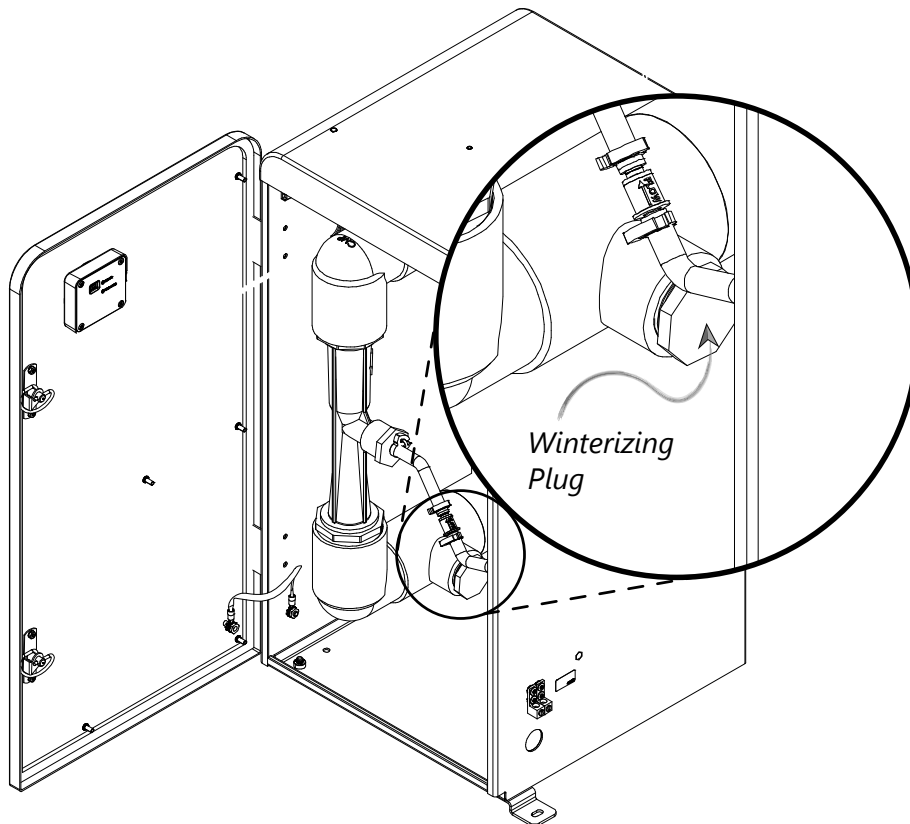
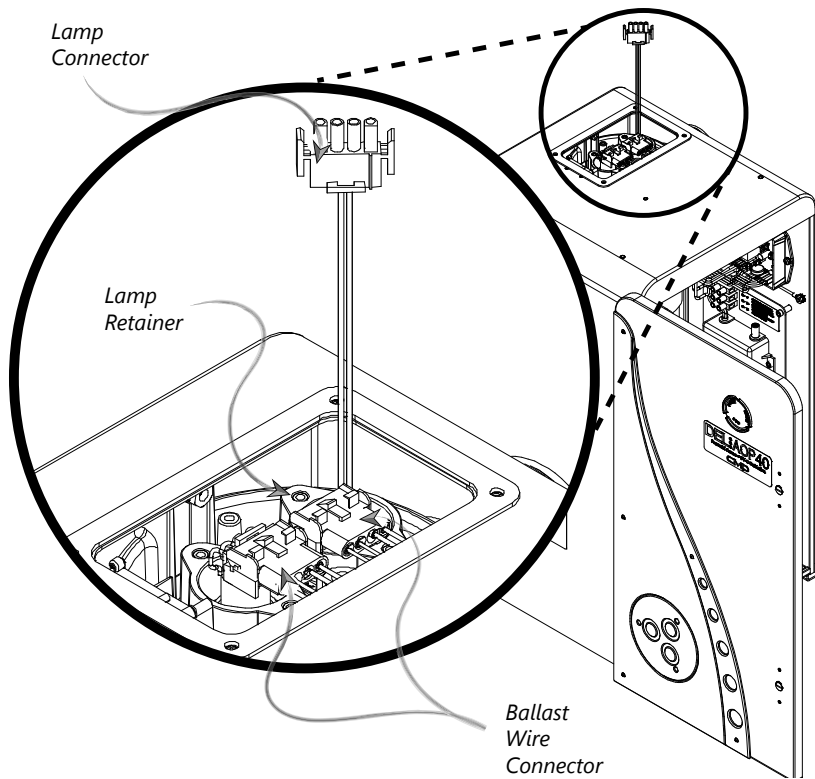

Figure 8: Winterization Plug Location
Figure 12: UV Lamp Replacement
The DEL AOP has indicator lights (Fig 8) to indicate its working condition. The lights should display the correct colors after the pump has reached steady flow (see chart on page 5). During normal operation, refer to the chart below for status information.
*The DEL AOP is constructed with one (AOP 25) or two (AOP 40) APG2 corona discharge ozone modules. Blue ozone light on system smart status LEDs indicate ozone modules are operating properly (refer to Figure 8 for a more detailed view).
Gas from the ozone modules is drawn through the ozone gas line by the injector and into the water. The ozone check valve (refer to Figure 12) in this line prevents water from migrating back to the ozone modules when the DEL AOP is not running.
This component connects the ozone gas line to the injector manifold (refer to Figure 12). When servicing this component, do not tighten past 10 in-lbs torque or the component may be damaged.
There are two lamps in each Del AOP unit. The violet UV-C light on system smart status LEDs indicates UV lamps are operating properly (see Fig 8). If the UV lamp access panel is removed while the unit is running, the unit will be shut down automatically. (see Fig 12). The lamps are each housed in a quartz tube that protects the lamp.